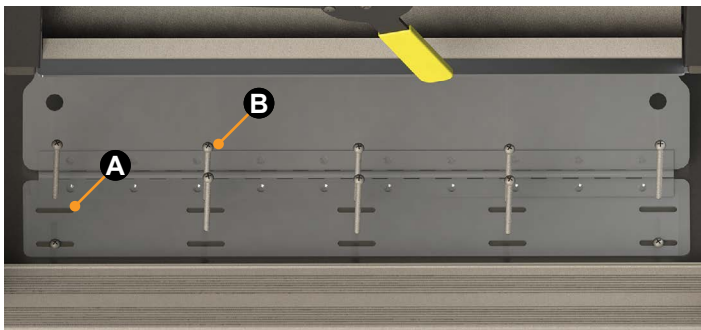

Fig.6
B. For laminate flooring, drill two holes straight down with the 13/64" drill bit via the access holes located in the top of the mounting plate. Insert two #10-4" bolts into the mounting plate through the floor through the backer plate (**Fig.2B**) and secure with the plain washers, lock washers and then the nuts provided. Refer to Figure 6 and Figure 7 for backer plate info.